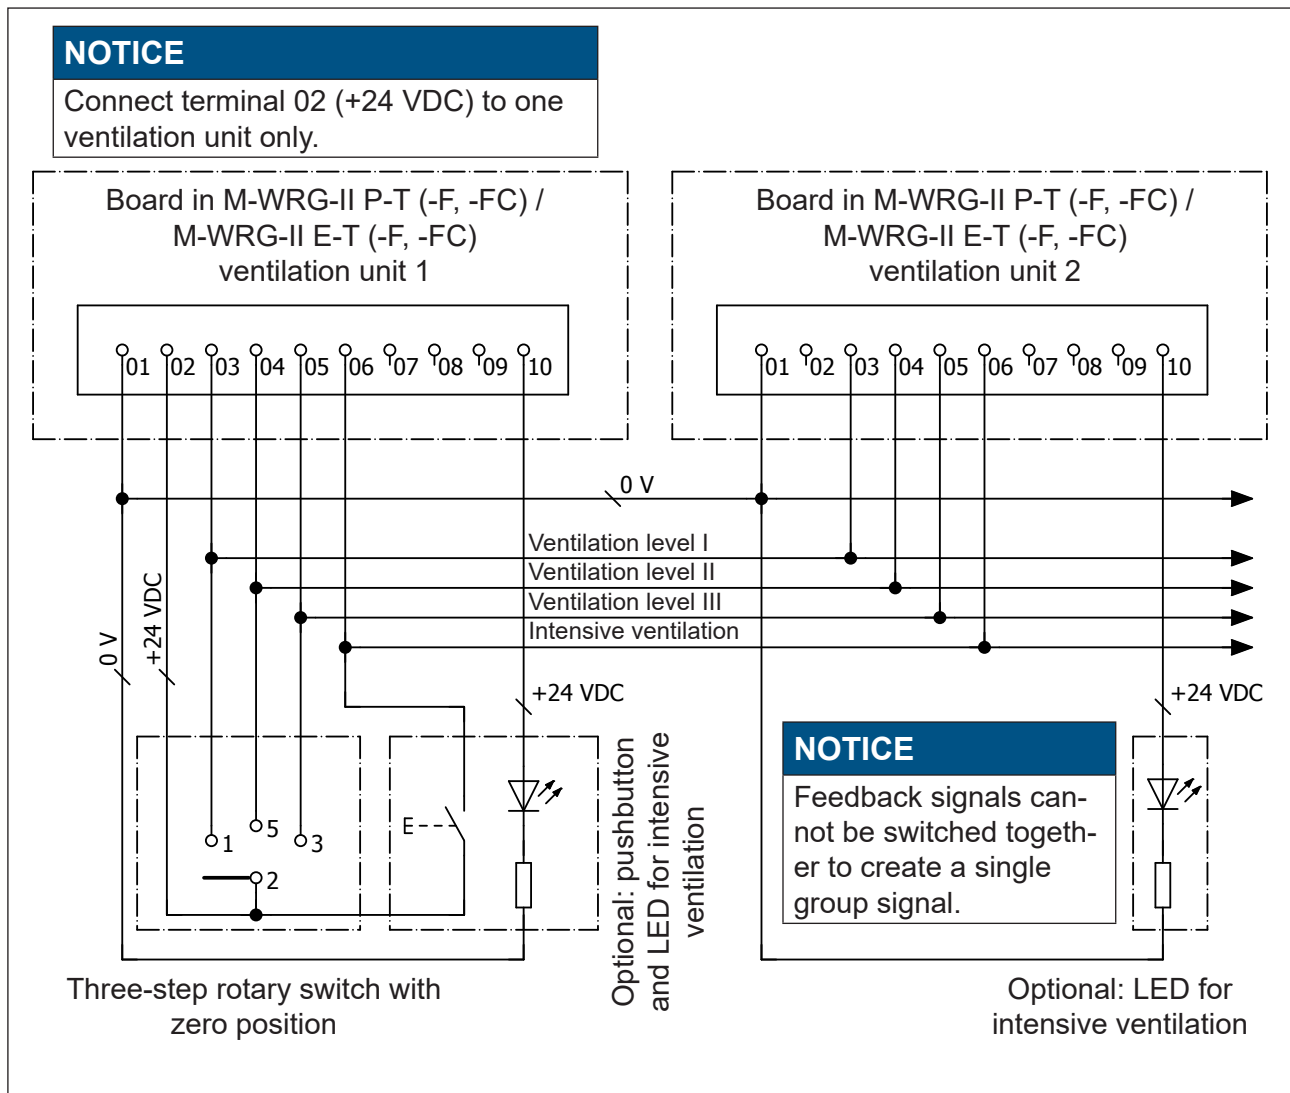

Fig. 37: Circuit diagram for wiring M-WRG-II P-T (-F, -FC) / M-WRG-II E-T (-F, -FC) ventilation units with control cable and optional pushbutton/LED
- ▶ Connect the control cable and optional pushbutton/LED to the ventilation unit boards (see terminal assignment in section 16.7.1 and circuit diagram in Fig. 37 on page 56).
- The terminals 01 (0 V) of all ventilation units must be connected to one another (see Fig. 37).
- The terminal 02 (+24 V DC) of the three-step rotary switch may only be connected to the terminal 02 of a single ventilation unit (see Fig. 37).